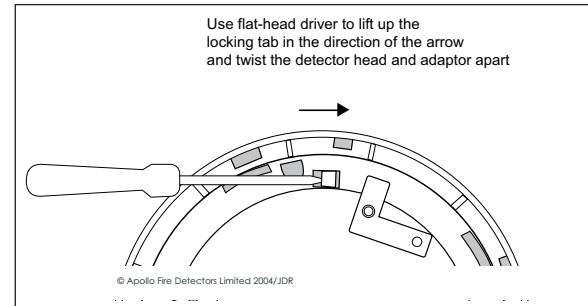

Fig 4 How to unlock the Orbis Adaptor
3. Using a small, flat-head screwdriver, gently lift up the locking tab and twist the adaptor in an anti-clockwise direction to separate the detector head and adaptor. (See Fig 4).